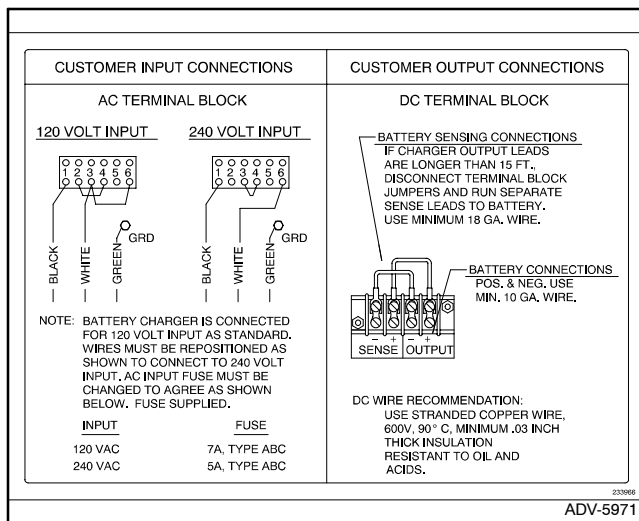

Figure 2 AC Customer Input Connections and DC Customer Output Connections
2. Because of the variety of generator installations, battery cables are not provided. To make battery connections, cut red (+) 10-gauge stranded wire to desired length and strip insulation from both ends. Attach a post-type connector to one end of wire. Route other end of battery cable through the knockout in the bottom of the battery charger and connect to output positive (+) terminal on charger DC terminal block. See Figure 2. Tighten terminal block lock screw to secure battery cable.
If battery charger output leads are longer than 4.6 m (15 ft.), disconnect DC terminal block jumpers and run separate battery-sensing leads to battery. Connect red 18-gauge (minimum) wire to positive (+) sensing terminal and black 18-gauge minimum wire to negative (-) sensing terminal. See Figure 2 for terminal identification.
1. Battery chargers are factory-connected for 120-volt AC input. If using 120-volt AC input, connect to AC terminal block as shown in Figure 2. If using 240-volt AC input, remove the two AC terminal block jumpers and reconnect across terminals 3 and 4. Connect AC input as shown in customer input connections. See Figure 2 for AC input connections.